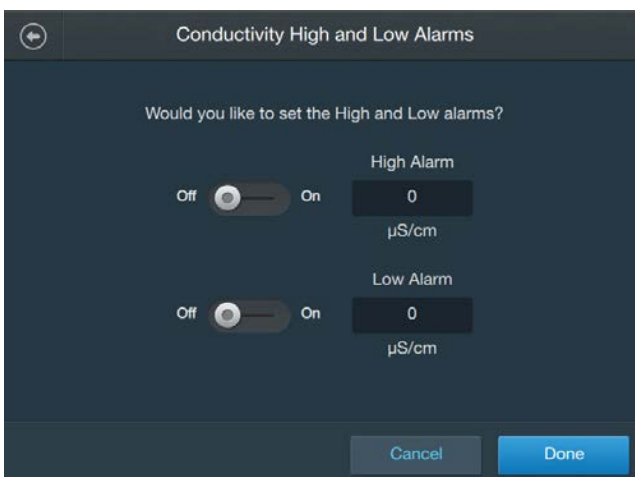

Figure 3.37. Conductivity High and Low Alarms.
5. On the screen that appears, there will be separate sections for both High and Low alarms (Figure 3.37). To set up the High alarm, slide the Enable/Disable button to the “Enable” side. In the “High Alarm” field, enter the conductivity level that will activate the High alarm.